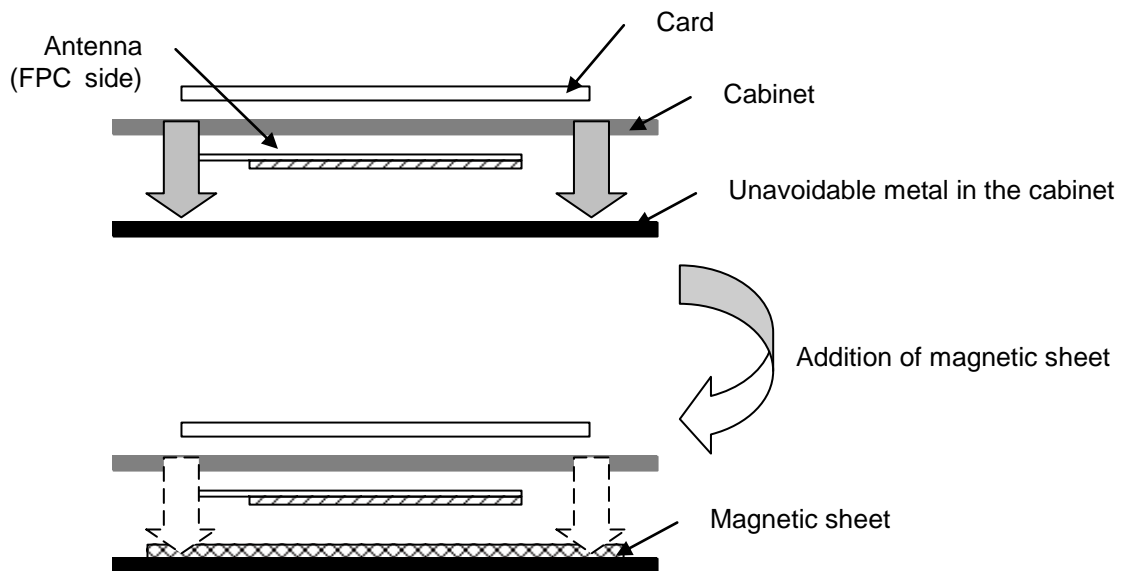

Figure B-2: Reduction of the impact of metal
4. If no performance improvement is achieved through the steps described above, attempt to add magnetic sheet (90 mm x 70 mm or more), as shown in Figure B-2, to the metal surface that faces the card and keep away the antenna from a metal plate at least 3 mm ($d > 3$).